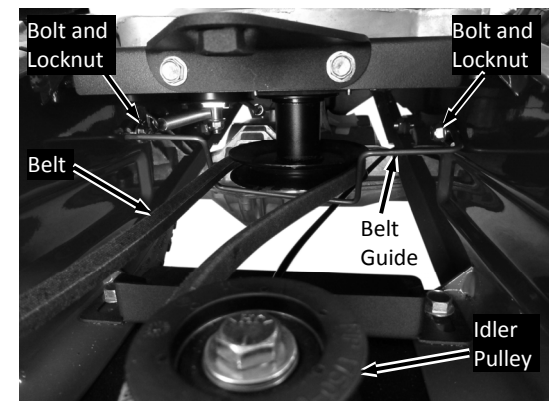

Figure 22
2. Remove the Bolt and Locknut at one side of the Belt Guide using two 9/16" Wrenches (Figure 22).
Note: Make sure to route the new Belt on the inside of the Idler Pulley as shown in Figure 22.